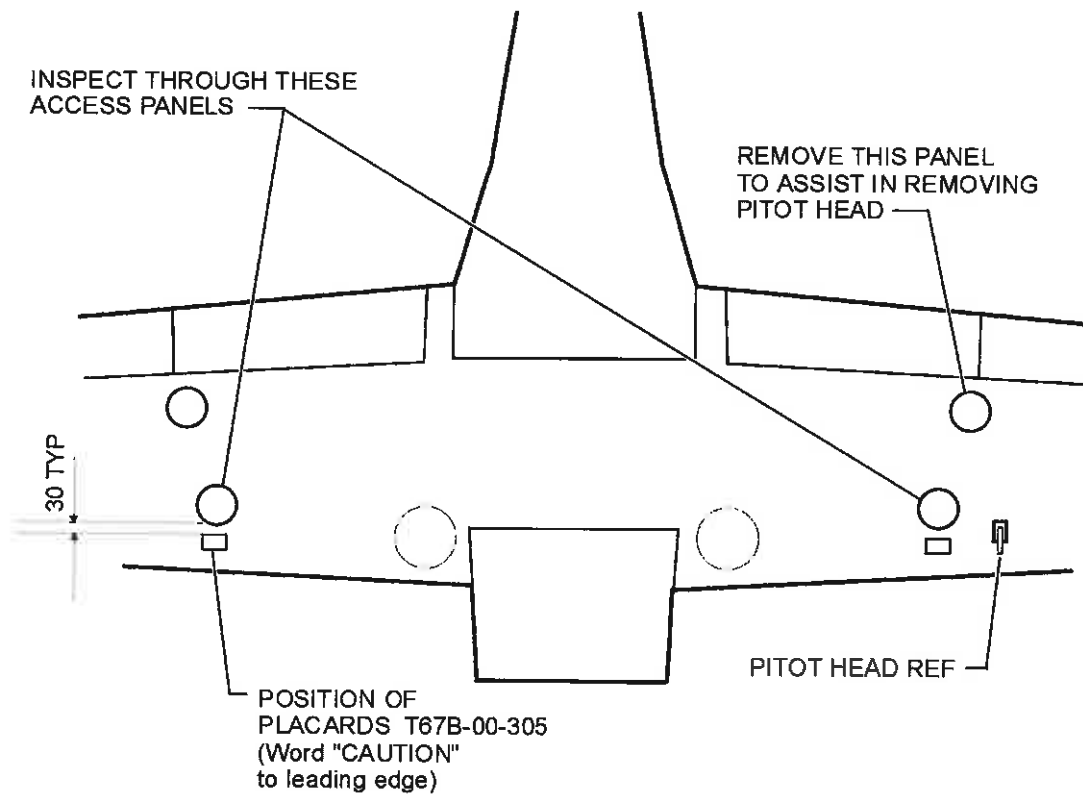

Figure 2 Showing Access Panels and Placard Position
Figure 2 added
Additionally, a case has been reported of cracked lightning conductor at the access holes indicated, ref Figure 2. An inspection is also required to check for any cracking in the lightning conductor and rectification as required.
1. Remove access panels indicated by Figure 2.
10. Attach placard T67B-00-305 as indicated by Figure 2. Both port and starboard access holes.